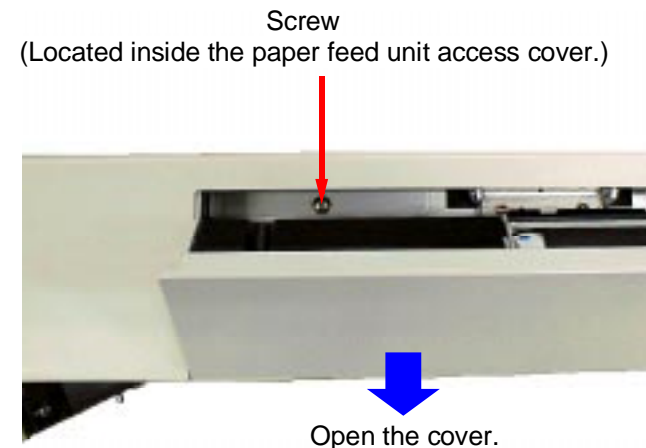

Figure 4-9. Paper Feed Unit Removal (2)
3. Open the access cover located on the paper feed unit side and remove 1 fixing screw indicated in Figure 4-9.